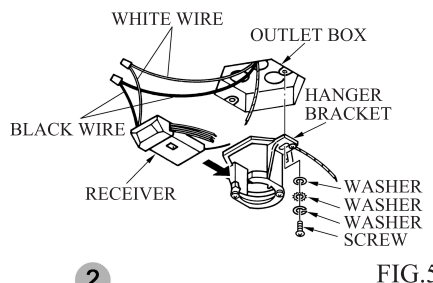

FIG.5
1. Securely attach the hanger bracket to the outlet box by washers and screws supplied. Connect white wire from ceiling to white wire from receiver with wire nut. Connect black wire from ceiling to black wire from receiver with wire nut. (see Fig.5)